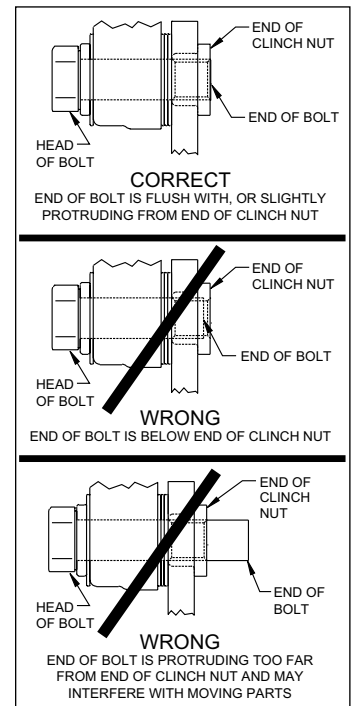

Figure 3. Clinch Nut Engagement Diagram
CAUTION: All mounting bolts must fully engage clinch nuts. Be sure to check that all bolts are either flush or protruding through flanged side of clinch nut after shimming, Figure 3.
STEP 8 **NOTE:** Please reference the caution statement at the beginning of the assembly instructions. This kit contains distinct right and left hand calipers that must be mounted in a specific direction, as described below. Mount the caliper (8) onto the caliper mounting bracket (1) using bolts (9) and washers (10), as shown in Figure 1. Initially place two .035" thick shims (11) on each bolt between the caliper and the bracket, Photo 6. Ensure that the caliper is mounted so that the largest pistons are at the rotor exit end of the caliper, in relation to the direction of forward rotor rotation. Temporarily tighten the mounting bolts (9) and view the rotor (3) through the top opening of the caliper. The rotor should be centered in the caliper, Photo 7. If not, adjust by adding or subtracting shims (11) between the bracket and the caliper. Always use the same amount of shims on each of the two mounting bolts. **NOTE:** The end of each bolt must be flush with or slightly protruding from the head of the clinch nut, as shown in Figure 3. If necessary, place spare shims (11) between washer (9) and caliper mounting ear to achieve the proper clinch nut engagement. Once the caliper alignment and clinch nut engagement are correct, remove the caliper.